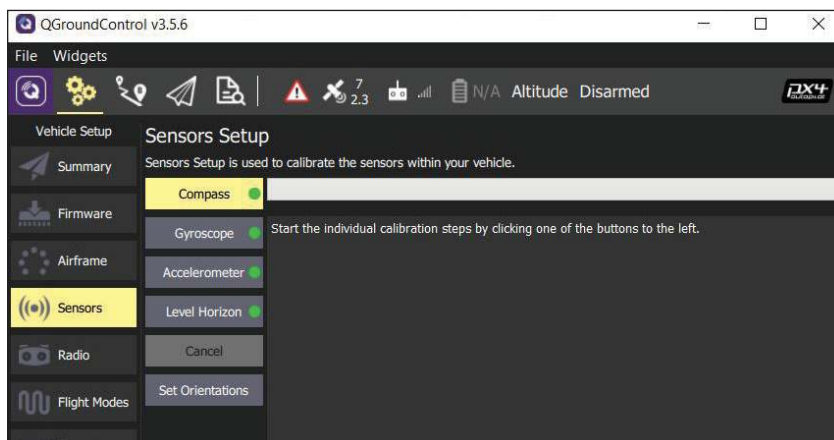

FIGURE 8
Step 2. Sensor calibration. Next, from the "Sensors" submenu, we calibrate the compass, gyroscope and accelerometer, and also level the horizon (**Figure 8**). Plenty of guidelines are given in each step by QGroundControl, itself.